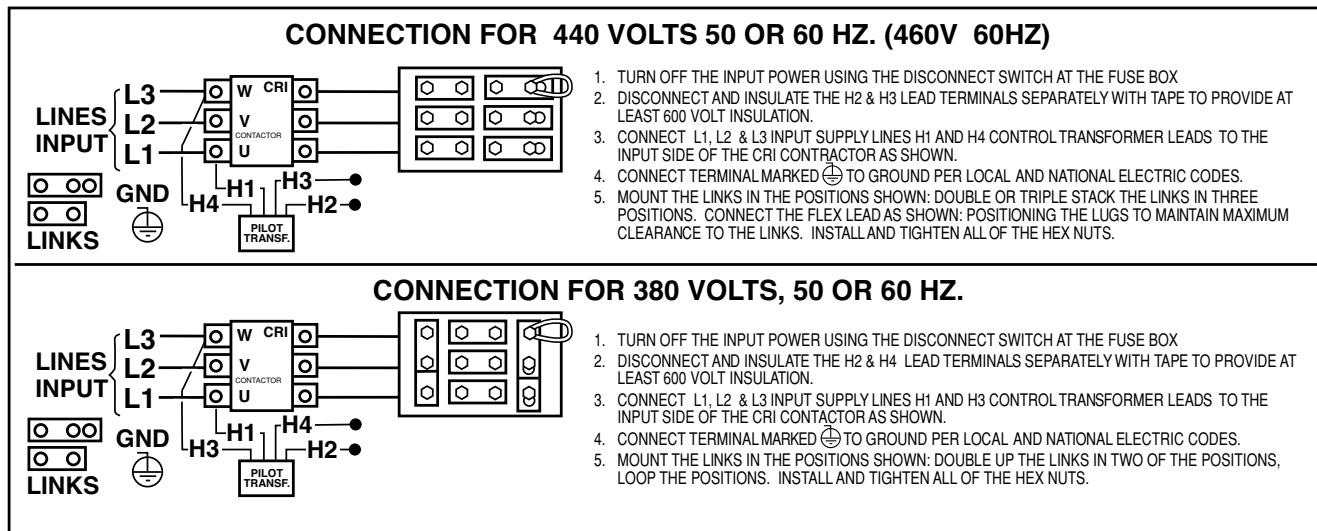

FIGURE A.4-Reconnect Panel Board Positions for 380/440 VAC Machines
1. For 380/440, see Figure A.4. (M15010-5)